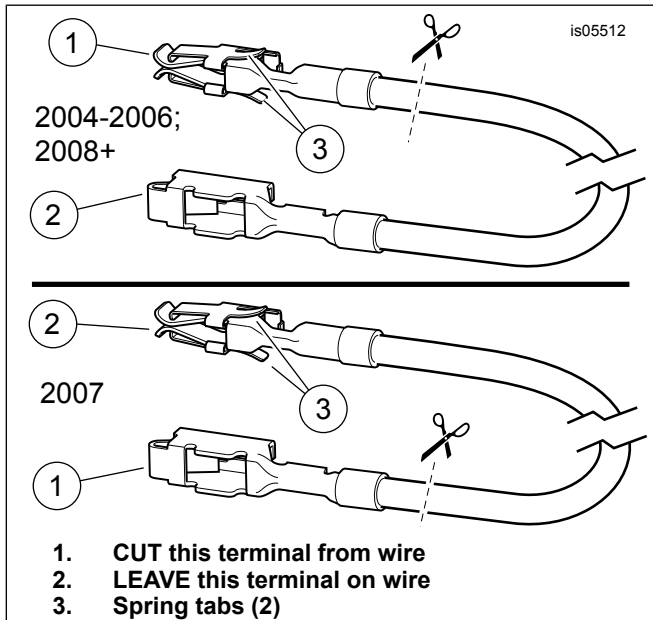

Figure 13. Fuse Block Adapter Wire (FL Touring)
- Obtain the orange/white fuse block adapter wire (9) from the kit. **For 2004 through 2006 models:** Note the terminal on each end (see Figure 13, **upper view**). Only the terminal **WITHOUT** the spring tabs will fit into the fuse cavity. Carefully cut the terminal **WITH** spring tabs from the wire and discard it. **For 2007 models:** Note the terminal on each end (see Figure 13, **lower view**). Only the terminal **WITH** the spring tabs will fit into the fuse cavity. Carefully cut the terminal **WITHOUT** spring tabs from the wire and discard it.